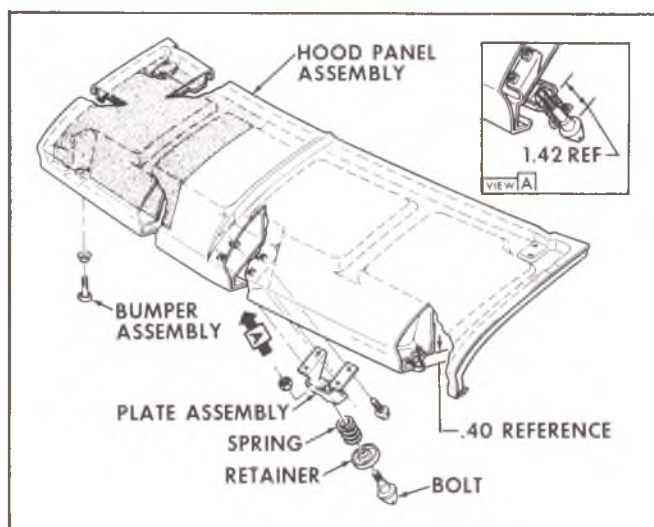

Fig. 7—Hood, Bumpers and Latch—G Series
1. Adjust lock bolt as shown in Figure 7.
### Hood Bumper (Fig. 7)
### Hood Assembly (Fig. 7)